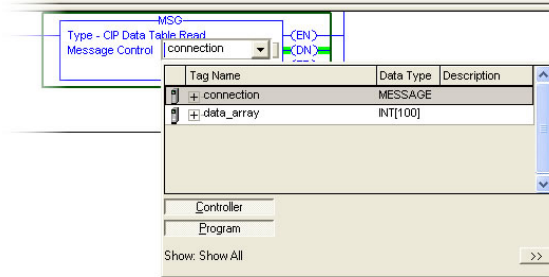

Figure 96: MSG Instruction Tag Assignment
- Edit the “Message Control” field on the MSG instruction to use the previously-created “connection” tag. Refer to Figure 96.